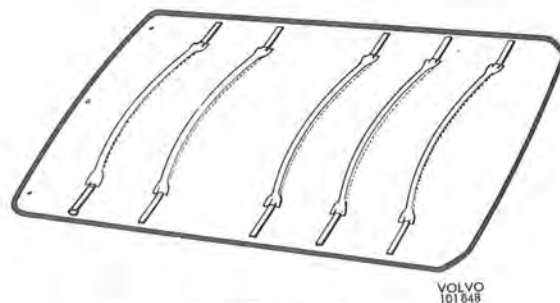

Fig. 8-31. Headlining
5. Fit the stretchers in the new headlining. Make sure that they are provided with rubber caps at the ends as shown in Fig. 8-31.